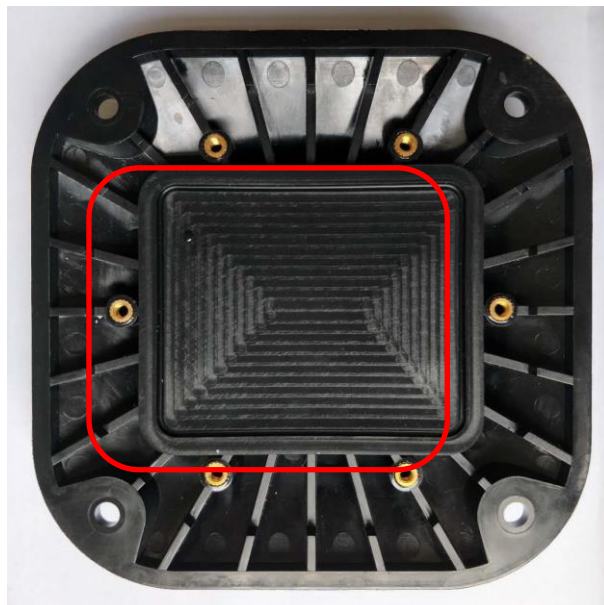

Figure 2
Step 2: Remove the middle plastic cover. The plastic cover is shown in the red area in Figure 2.